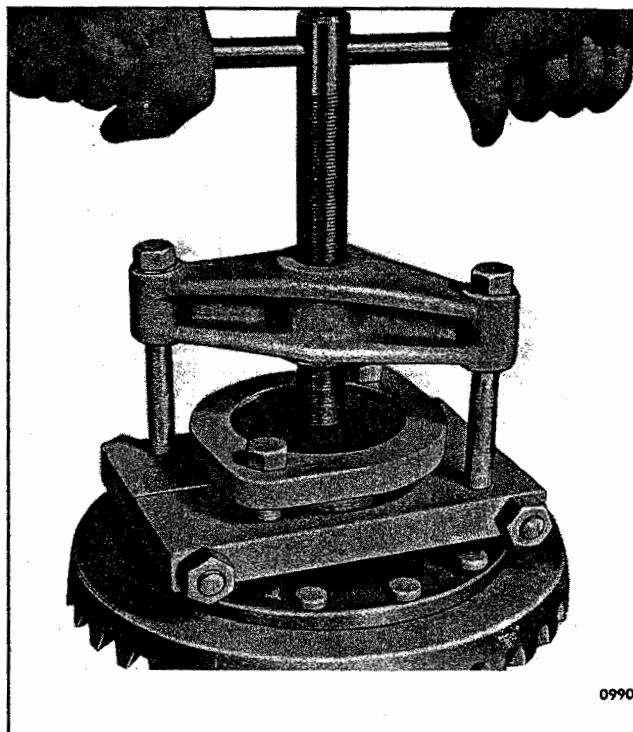

Figure 4—Differential Bearing Removal (Typical)
2. Remove side bearings (40) from each half of case, using suitable bearing puller in manner illustrated in figure 4.
3. Remove lock wire and nuts (5) from bolts (45) which hold the two halves of differential case (2) together; then separate halves of case.
4. Remove side gears (12), thrust washers (13), spider (3), pinions (43), and thrust washers (4) from differential case.
5. If either drive gear (1) or drive pinion (33) are worn or damaged, both must be replaced as a matched set. Never replace drive pinion or drive gear separately.